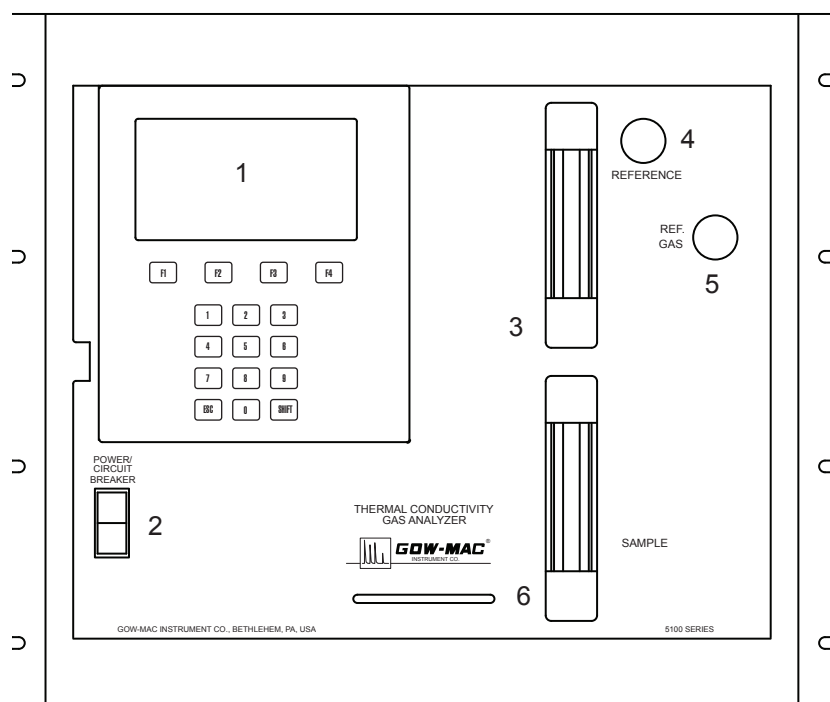

Figure 5-1: Front Panel
A. Front Panel shown in Fig. 5-1